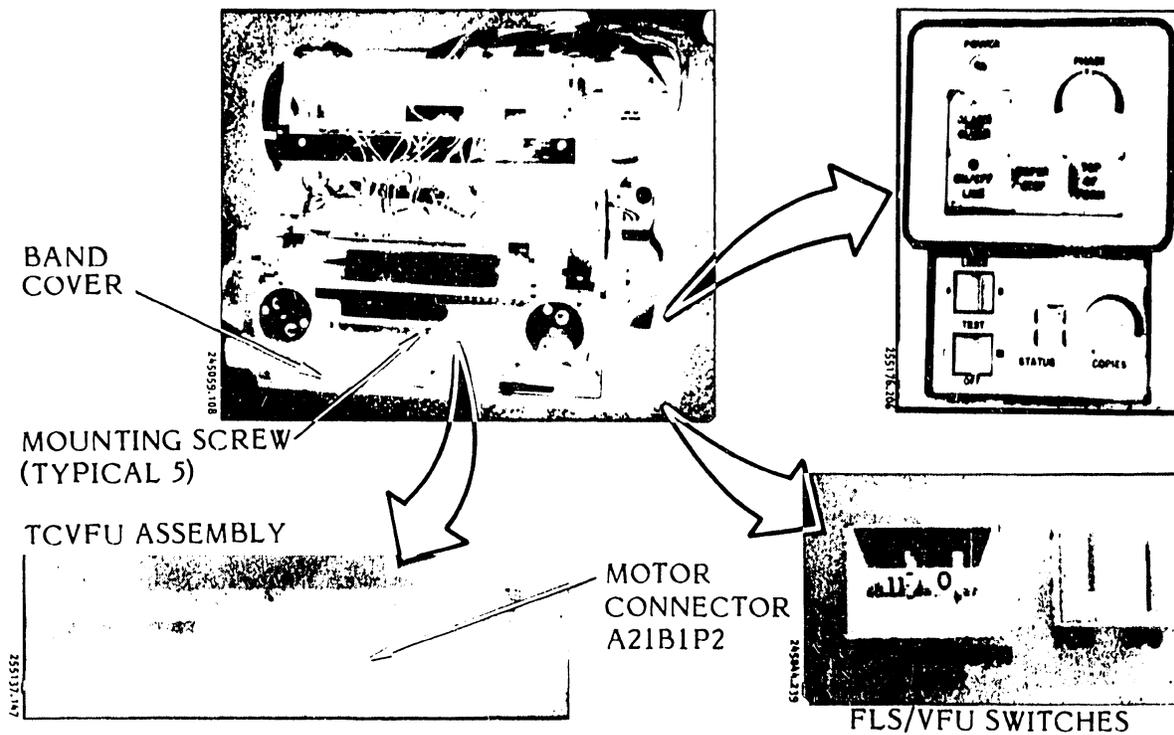

Figure 3-27. TCVFU Components Test
### 3.5.12 TCVFU Assembly Components Test (Figures 3-27 through 3-30)
- d. Set the control panel FLS/VFU switch to VFU (figure 3-27).